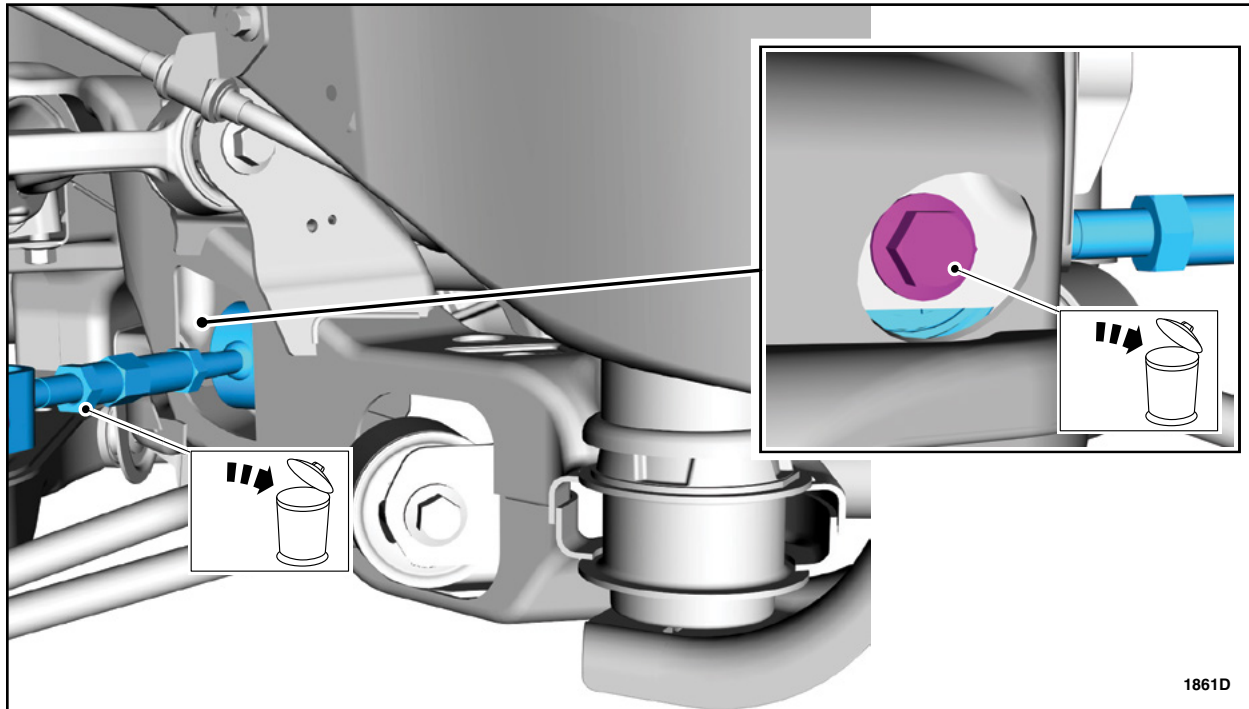

FIGURE 5
7. Remove and discard the toe link to subframe bolt and the toe link. See Figure 5.